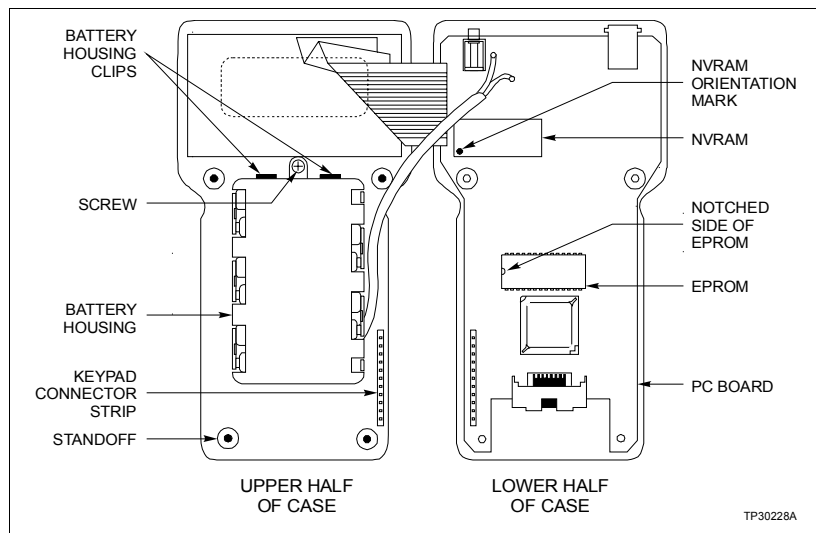

Figure 7-1. Internal Component Locations
5. Grasp the PC board by the edges and turn it over so the components on the board are facing up (Fig. 7-1).
The EPROM chip stores the operating software (firmware) of the Type STT03E terminal (Fig. 7-1). When needed, software revisions are made to the firmware and can be obtained by customers (refer to **RECOMMENDED**
2. Using an integrated circuit (IC) removal tool, carefully remove the EPROM chip. Refer to Figure 7-1 for EPROM location.
- a. Grasp the chip at the edges that have no connecting pins (right-side and notched-side, Fig. 7-1).
- b. Observe the position of the notched-side of the EPROM in Figure 7-1. Without fully inserting the connecting pins, set the EPROM in the connecting socket.
2. Using an integrated circuit (IC) removal tool, carefully remove the NVRAM storage chip. Refer to Figure 7-1 for NVRAM storage chip location.
- a. Grasp the NVRAM storage chip at the edges that have no connecting pins (right-side and left-side, Fig. 7-1).
- b. Observe the position of the storage chip in Figure 7-1. The print on the replacement storage chip should be legible for correct assembly. Without completely inserting the connecting pins, set the storage chip in the socket.
Remove the battery housing using the following procedure (Fig. 7-1):
2. Remove screw securing the battery housing (Fig. 7-1).
7. Turn the battery housing over (batteries facing down), and insert housing as shown in Figure 7-1.